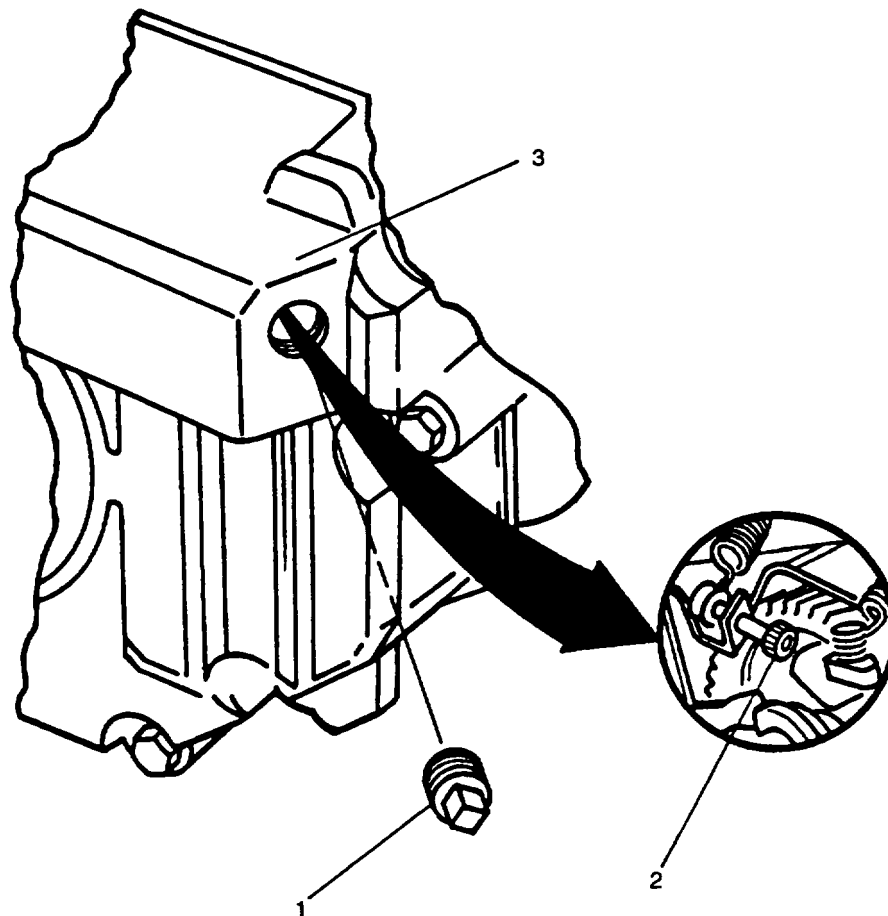

FIGURE 4-13. Frequency Droop Adjustment
- Remove plug (1, FIGURE 4-13) from engine governor housing (3).